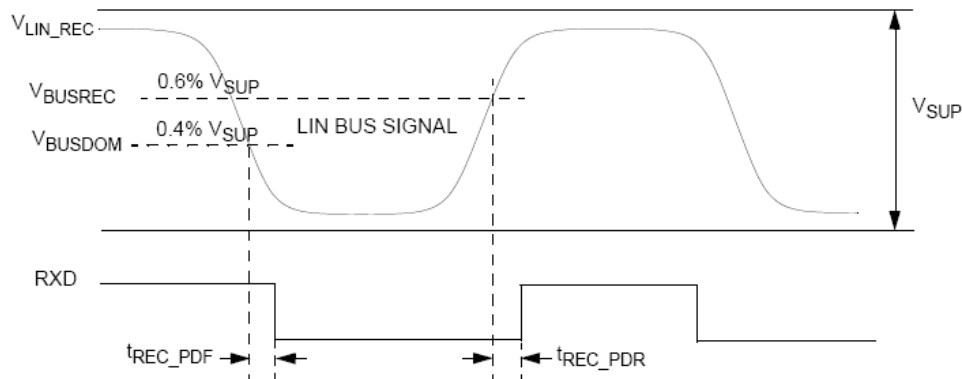
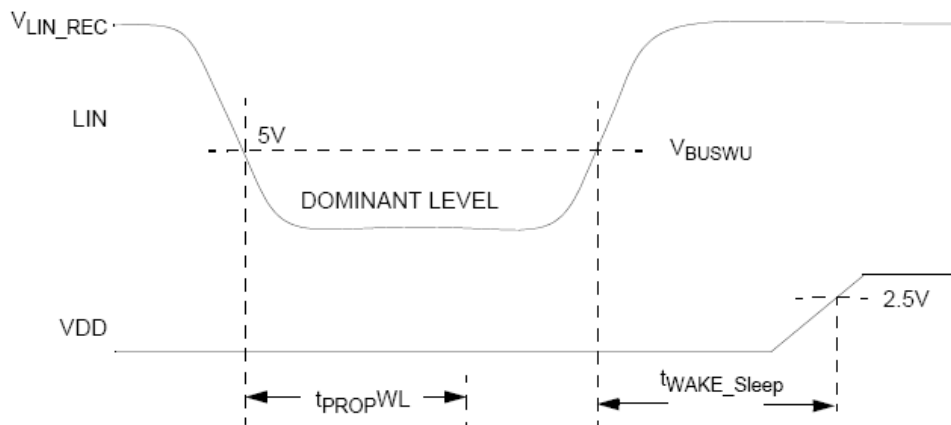

Figure 6. LIN receiver timing
Figure 7. LIN wake-up timing from low-power V_{DD} off mode
23. See Figure 6 and Figure 7.